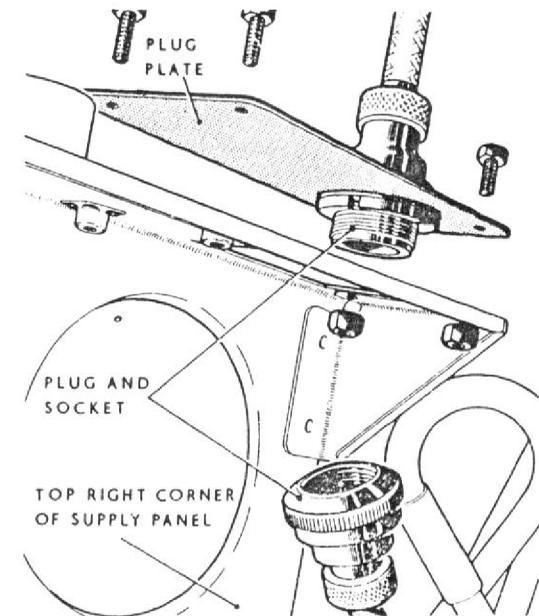

Fig. 2. G4F compass cable plug mounting on supply panel
- (1) Render the aircraft electrically safe (Group A.1).
- (2) Remove the radio access door.
- (3) Disengage the four Dzus fasteners securing the generator control panel to the bottom of the supply panel, raise the control panel and retain it in this position by means of the ring and chain provided on the radio mounting structure. Alternatively, remove the control panel (*as described in para. 13*).
- (4) Disconnect cable assemblies C1, C2, C4, and F.49 at the plugs located at the top and bottom of the panel. Seal off the plugs and sockets with approved caps and covers, and stow the cable assemblies away from the panel.
- (5) Disconnect all the leads of cable assemblies IF1, IF2, IF5, C5, F2, F4, F7, F9, F21, F23 and F52 from the terminals on the panel. Remove the straps securing these leads, insulate all bare ends, coil up the cable assemblies and stow out of the way.
- (6) Disconnect the cable GC2 (*G4F compass*) from the plug and socket break mounted at the top of the supply panel (*fig. 2*). Stow this cable. Remove the plug and socket mounting plate, with cable GC3 still connected, from the top of the panel and stow it clear of the panel.
- (7) Disconnect the two earth leads E.5/A from earth point 5 on the battery mounting. Remove any straps securing this lead and coil back to the supply panel.
- (8) Disengage the panel from the aircraft structure by removing the six screws from the forward and rear edge, together with the six nuts from the studs projecting through the panel channel members.